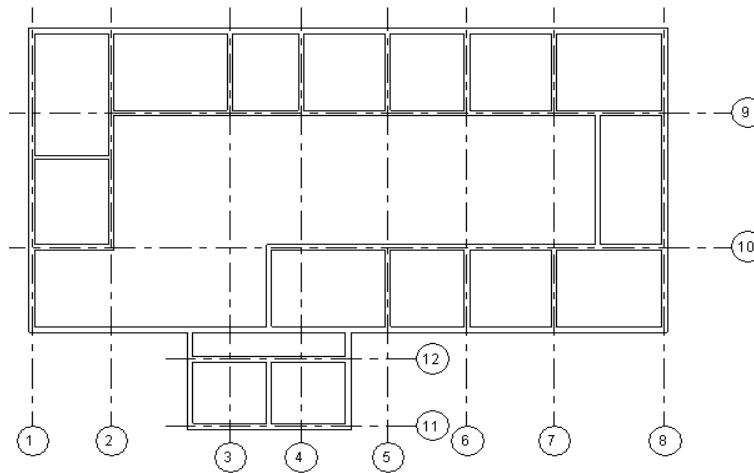

Figure 3-76 The horizontal and vertical grid lines created for wall centerline
6. Repeat steps 3, 4, and 5 to create other vertical and horizontal grid lines in the sequence of their numbers using the alignment line feature. After adding grid lines, press ESC twice to exit. Figure 3-76 shows the floor plan after adding grid lines.